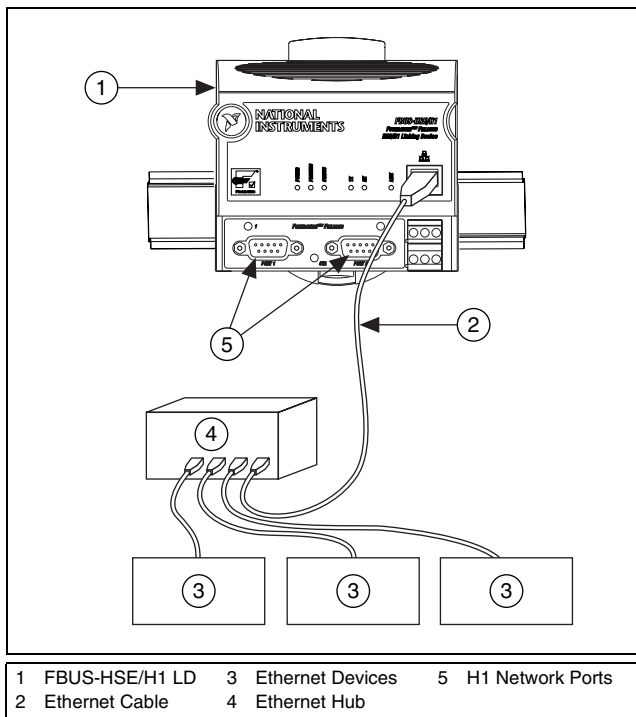

**Figure 3.** Mounting the FBUS-HSE/H1 LD onto a Panel Mount Accessory
- a. Snap the panel mount accessory onto the module as shown in Figure 3.